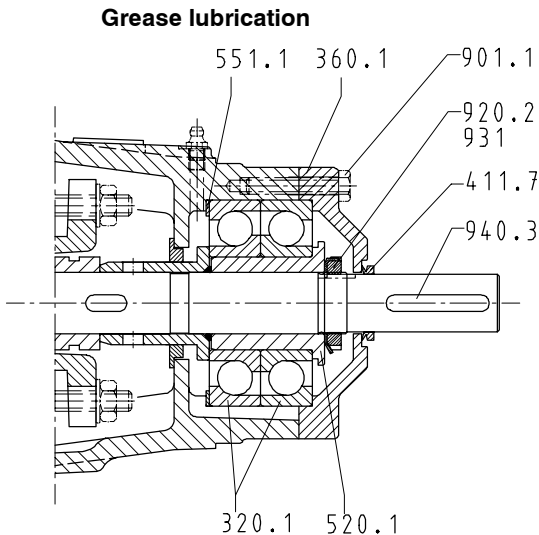

Fig. 26
- After loosening the grub screw in the coupling hub pull out coupling half with key 940.3.
**Grease lubrication (figs. 26 and 27)**